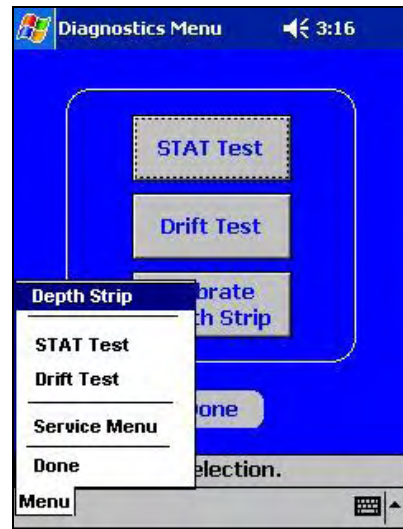
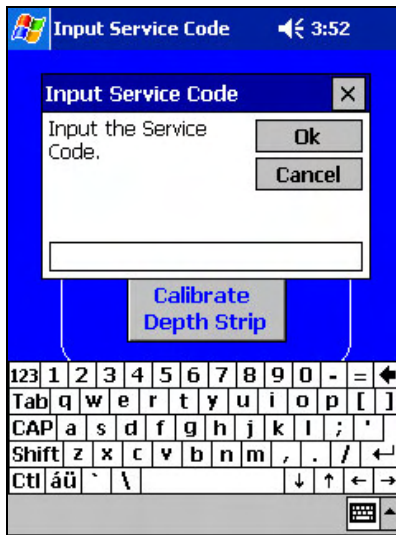

Figure 22. Diagnostics Menu, with Dropdown Menu Activated
Figure 23. Service Code Prompt
- A.9 From the **Diagnostics Menu**, click the word **Menu** in the lower left corner of the screen. A dropdown menu will appear in the lower left side of the screen, as shown in Figure 22.
- A.10 From the dropdown menu shown in Figure 22, click on the **Service Menu** option. The software requests a service code, as shown in Figure 23.